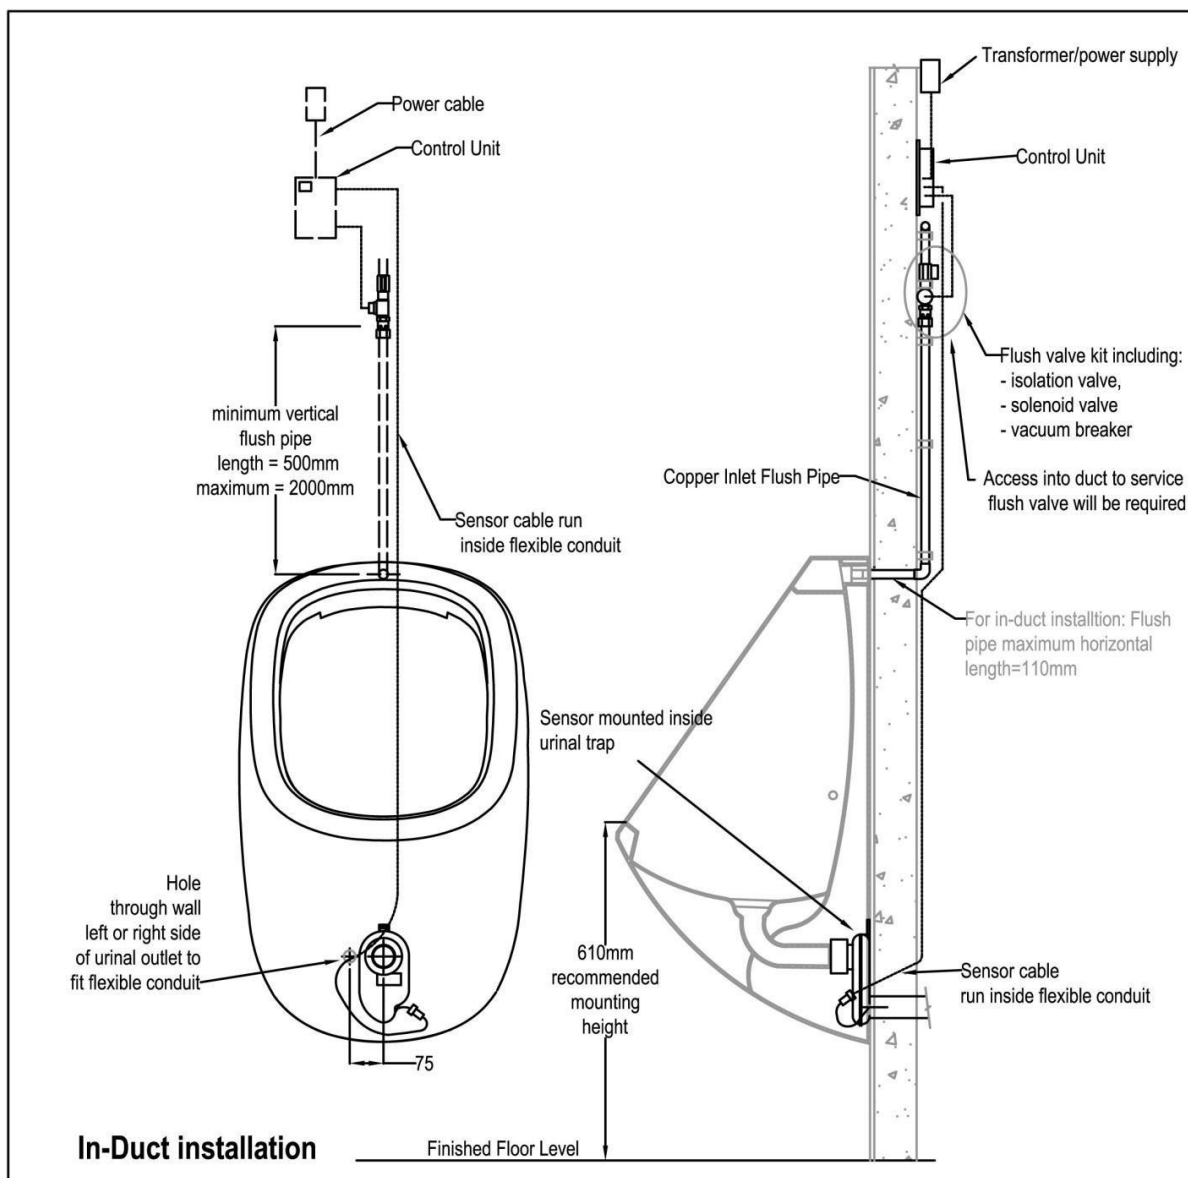

Fig. 12
- Fig. 12 In-duct installation